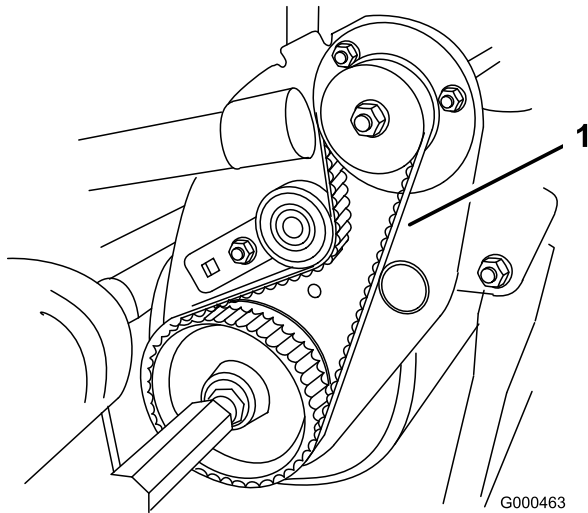

Figure 42
2. Check tension by depressing belt (Figure 42) at mid span of pulleys with 4 ± 1 lb of force. Belt should deflect $3/16$ to $5/16$ inch (4.8 to 7.9 mm). If the deflection is incorrect, proceed to next step.